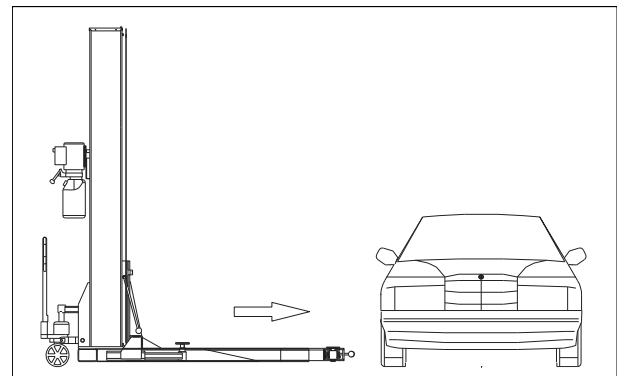

Fig. 35
**Note:** For movable single post lift, operators may also push the lift into the underside of the vehicle as show in Fig. 35.